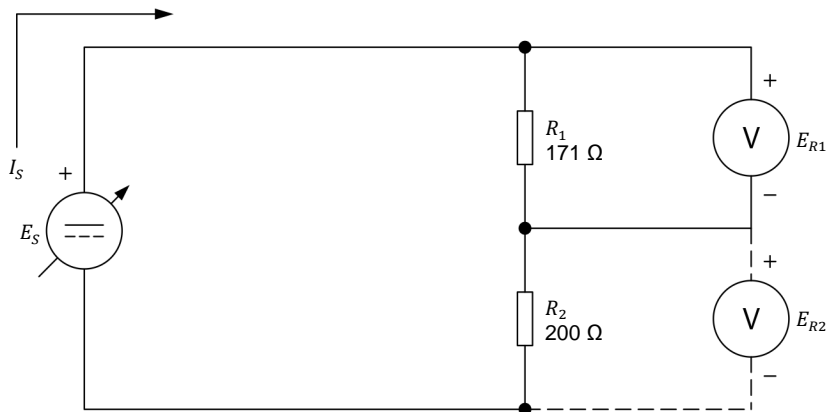

Figure 26. Measuring power in a circuit with resistors in series.
12. Set up the circuit shown in Figure 26. To obtain the resistor arrangement of Figure 26, make the necessary connection(s) and switch settings on the Resistive Load module.
*The voltage across resistor  $R_2$  will be measured separately in another step. For this reason, the voltmeter symbol is dashed for  $E_{R2}$  in Figure 26.*
15. Disconnect the voltmeter from resistor  $R_1$  and connect it across resistor  $R_2$ , as shown in Figure 26.